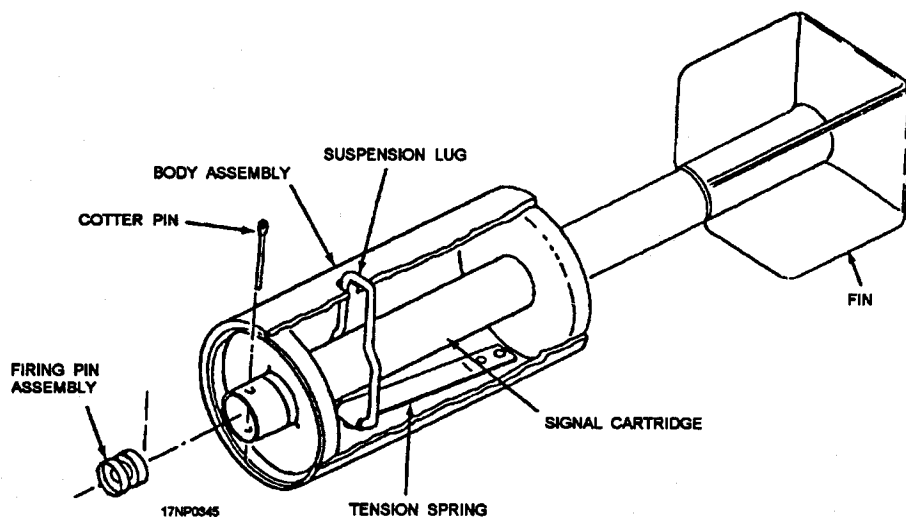

Figure 13-14.—BDU-48/B practice bomb.
2. Remove the firing device and inspect for rust or deformation. Refer to figure 13-14 for identification of the components.